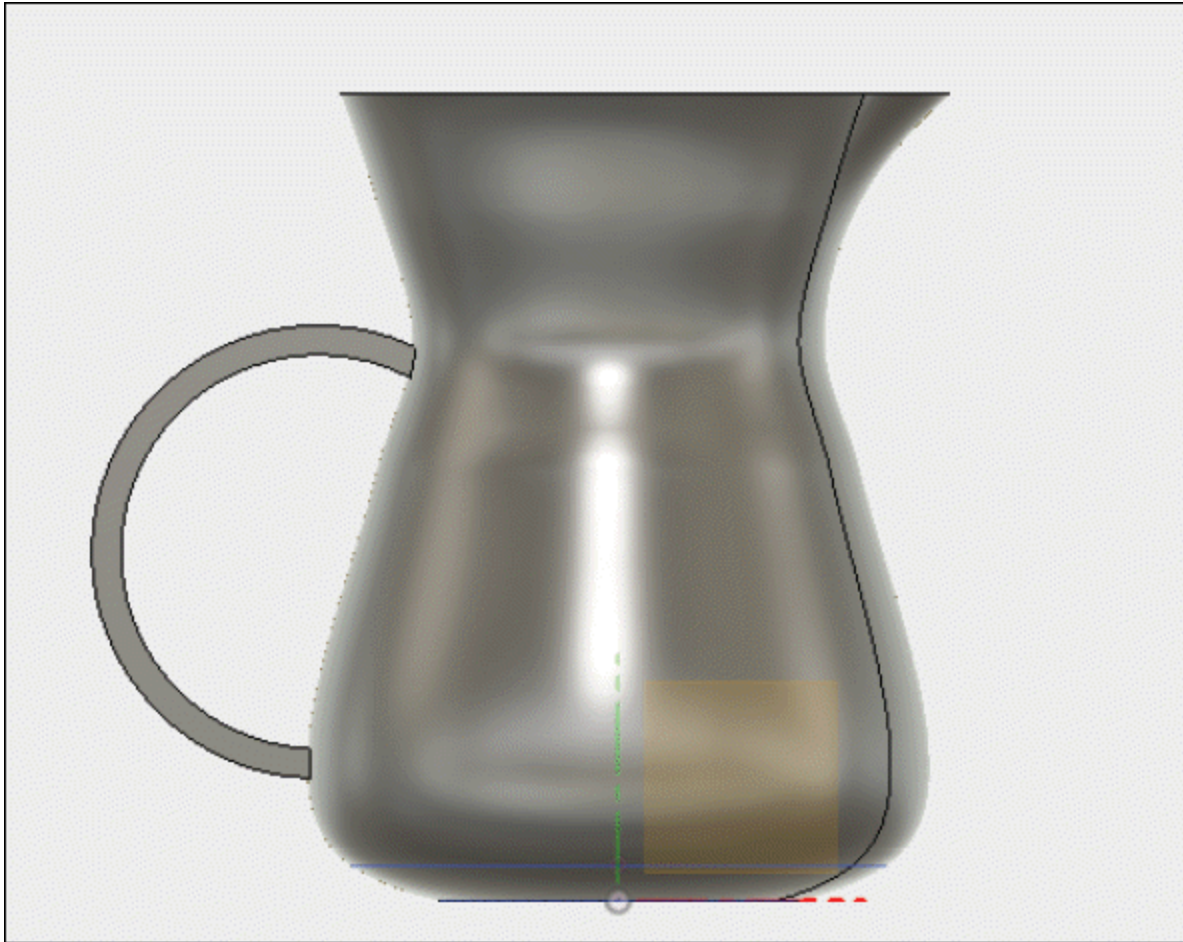

Figure-91. Model of Jug created
- The model of jug is created successfully; refer to Figure-91.